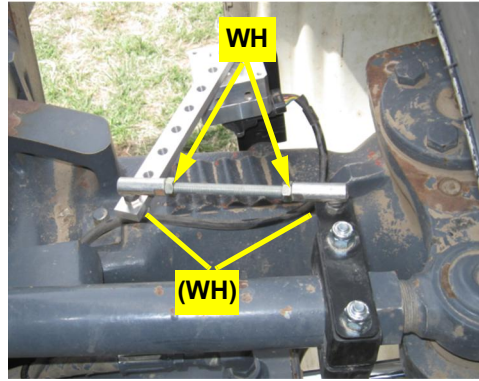

Figure 2e: Tighten link rod nuts
- When the linkage moves freely and without binding, tighten hardware **WH** on the rod and the swivels (Figure 2e).